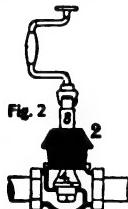

Fig. 2
For repairing the seat of a Jenkins valve Fig. 2 shows a good plan. Remove the bonnet and screw in the bushing (2) to form a guide for the stem (3), on the lower end of which is a circular file (4). When this is turned by means of the brace it files the seat until all irregularities are removed, making it as good as new.